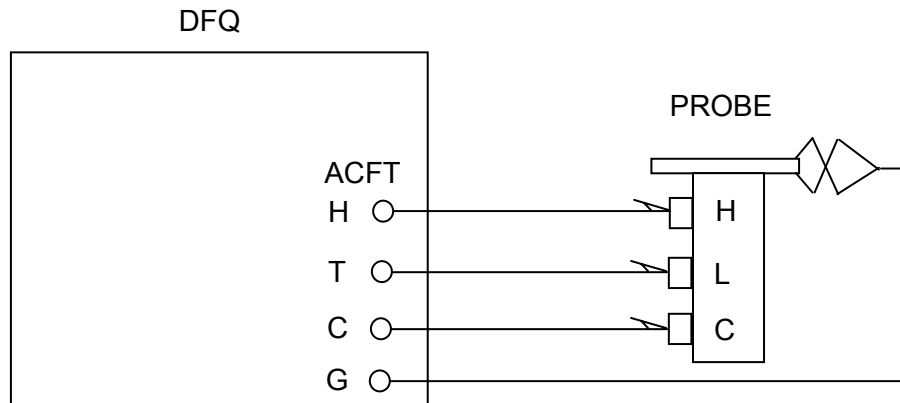

Figure 13 BENCH INSULATION TEST CONFIGURATION
- (1) Position the proper equipment for the following procedures.
- (2) Connect the BNC to mini alligator clip leads between the Test Set ACFT jacks and the associated Probe terminals. Refer to Figure 13.
- (3) Connect the ground lead from the Test Set **GND** receptacle to the probe mounting flange. Refer to Figure 13.